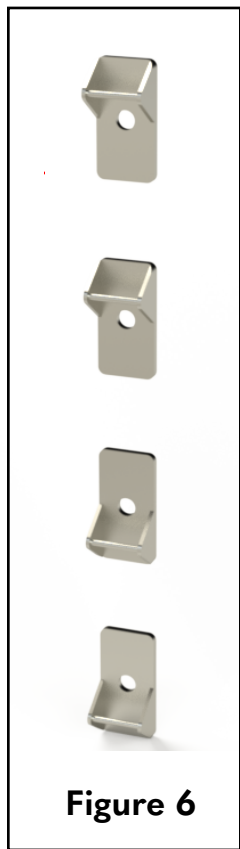

Figure 6
- **Important:** Follow the correct Door Latch (Item 10) orientation for proper function. Refer to Figure 6.